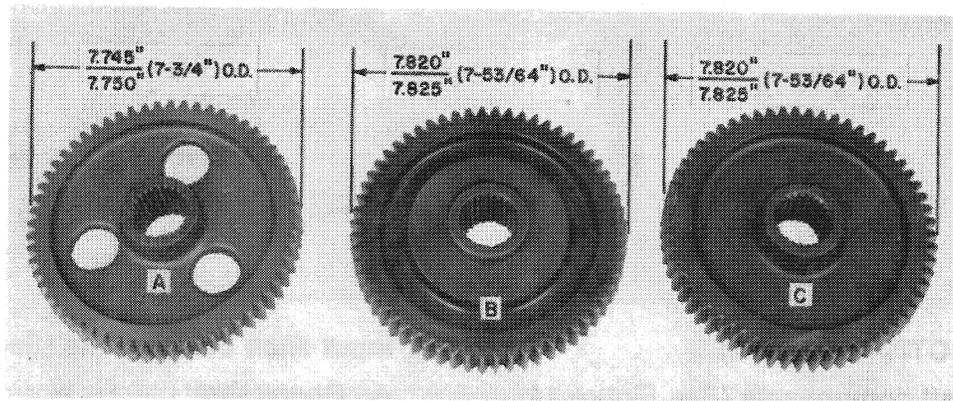
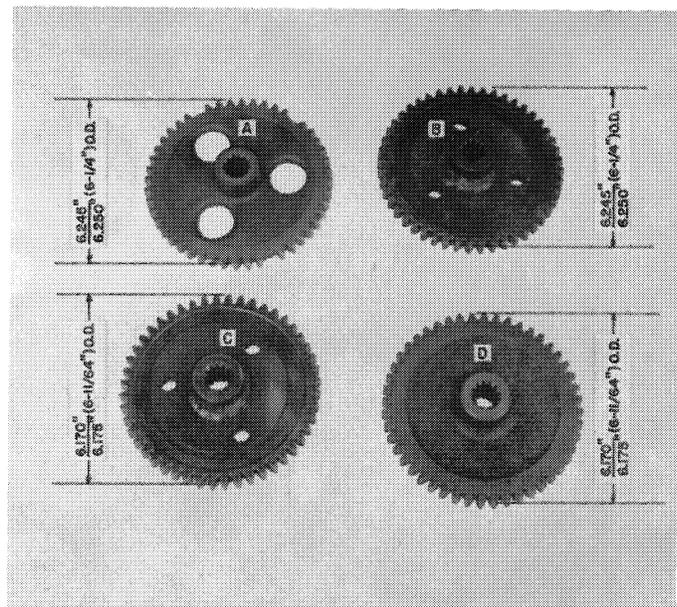

FIGURE 16
FIGURE 17
(Refer to Figure 16)
- Old **cast** gear, A, Figure 16, has **three** holes in web. The cast gear was originally used on 912's and early 1112's. Do **not** use with later pump gears (1). (**No longer available** from Service Parts).
- Steel** gear, B, Figure 16, is made from solid plate. Height of tooth rim may vary widely depending on supplier. (**No** holes in web.) Use only with later transmission drive gears (1).
- Latest forged** steel gear, C, Figure 16. (No holes in web.) Supplier (Brand) identification — H or ETN is stamped on side of rim near teeth. This gear **is available** from Service Parts. Use **only** with newer steel pump gears, C or D Figure 17.
(Refer to Figure 17)
- Old cast gear, A, Figure 17, has three 1/4" diameter holes in the web. (**No longer available** from Service Parts.)
- Steel gear with splined hub welded in. Three 17/32" diameter holes in gear web and **no** brand identification letters on rim of gear near the teeth, see B, Figure 17. (**No longer available** from Service Parts).
- Steel welded gear, C, Figure 17, looks the same as gear B, Figure 17. This gear **will** have brand identification stamped near side of gear teeth. (**No longer available** from Service Parts).
- Forged gear, D, Figure 17, **does not** have three web holes. Use only with forged steel driver gear, C, Figure 16. This gear **is available** from Service Parts.